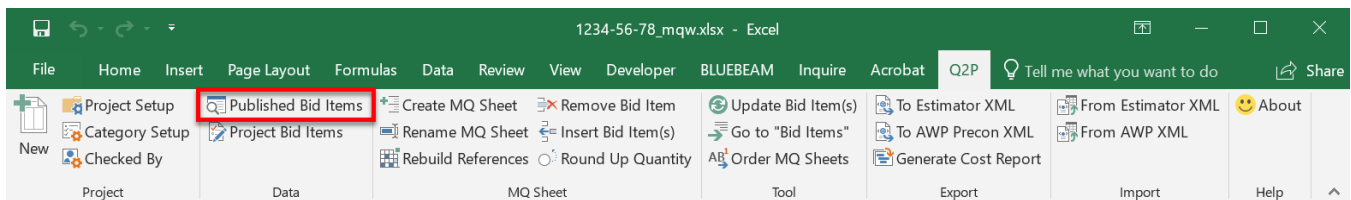

Figure 3.1 "Published Bid Items" command.
**Q2P > Data > Published Bid Items** (Figure 3.1) will display the most current list of bid items downloaded from the AWP server based upon the Spec. Book year chosen in the **Project Setup** screen (Figure 3.2). **This is for informational purposes only.**